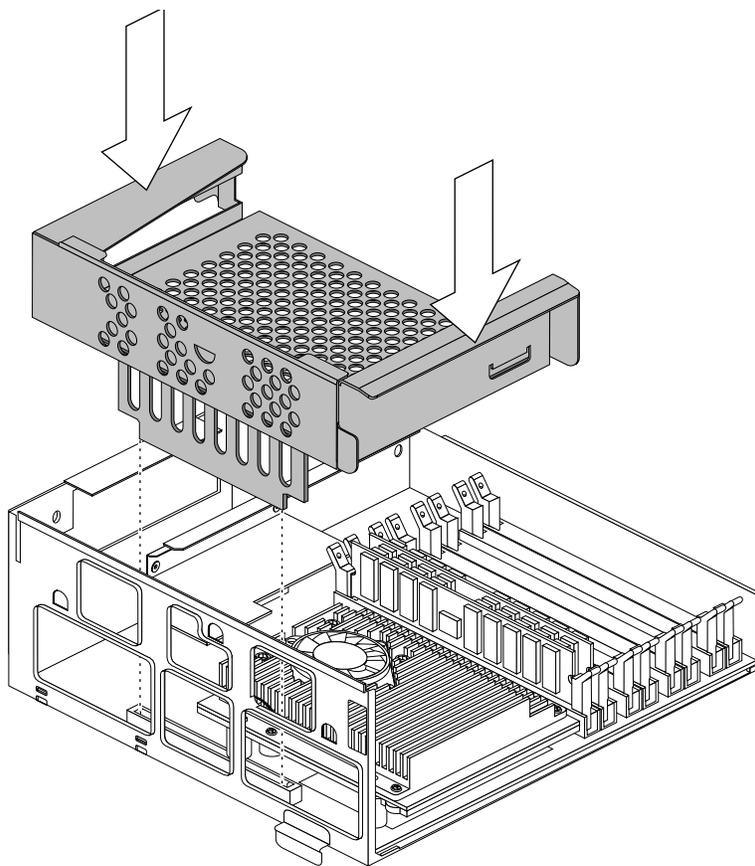

Figure 1-21 Replacing the R10000 PCI Tray in the System Module
1. Install the PCI tray (Figure 1-21).